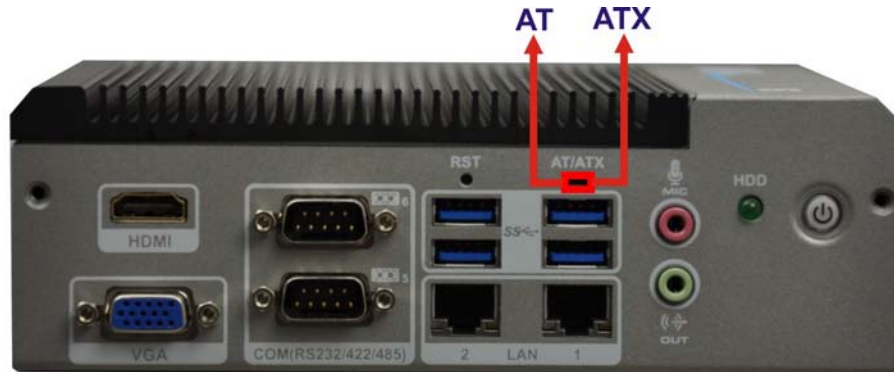

Figure 3-13: AT/ATX Switch Location
- Step 1:** Locate the AT/ATX switch on the bottom panel (**Figure 3-13**).